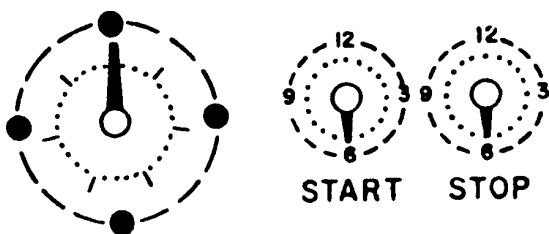

Figure 69
2. Set the time for automatic operation - Delayed Start - by pushing in on the Start Timer Knob and set the start time indicator about one hour ahead of the timer on the clock. (See Figure 69.)
3. Push in on the Stop Time Knob and set the Stop Time Indicator to approximately two (2) hours ahead of the time on the clock. (See Figure 69.) This clock assembly may use the analog or conventional clock face and may be configured differently. However, all test procedures are identical.
1. Push in on the Stop Time Knob and set the Stop Time Indicator to approximately two (2) hours ahead of the time on the clock. (See Figure 69.)
2. Advance the Clock Hands or Digits until they reach the Start Time Setting; at this point the Start Time Knob should "POP" out and within one (1) minute the lower oven burner should come ON.